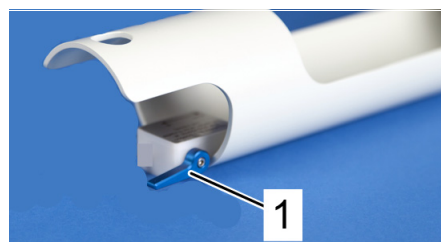

Figure 4.4: Blue lever (1) fixed in 'down' position.
2. Loosen the screw (2) and move the ring (1) so that the Animal Bed is balanced.
The lifting mechanism is controlled by the blue lever (Figure 4.4 (1)) at the end of the Animal Bed. When the blue lever is positioned in the 'down' position the lifting arm (Figure 4.5 ((1))) is counter-sunk within the Animal Bed (Figure 4.5). Moving the blue lever into the 'up' position (Figure 4.6) lifts the front end of the Animal Bed by pushing out the lifting arm (Figure 4.7 (1)). The lifting mechanism is force limited.